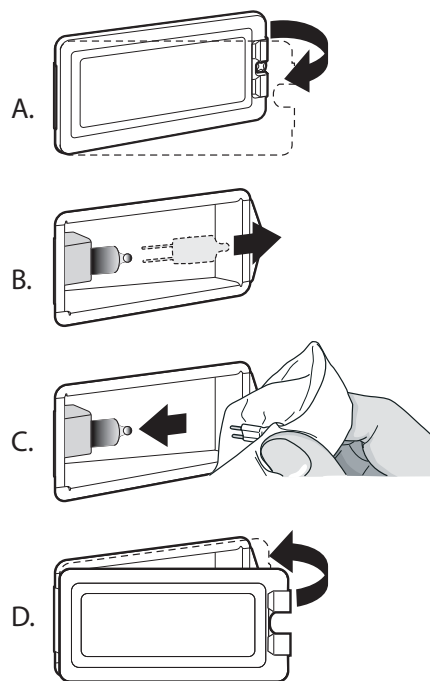

Figure 34: Bulb Replacement
3. Slide the tip of a flat blade screw driver between the fixing glass lens cover and the lamp housing (*Figure 34, A*).
6. Remove the bulb by grasping and sliding the bulb straight back until the two prongs have cleared the ceramic holder (*Figure 34, B*).
8. Press down to seat the bulb (*Figure 34, C*).
9. Slide the protective lens into the holder clip and push the other end until the lens snaps back into the housing (*Figure 34, D*).